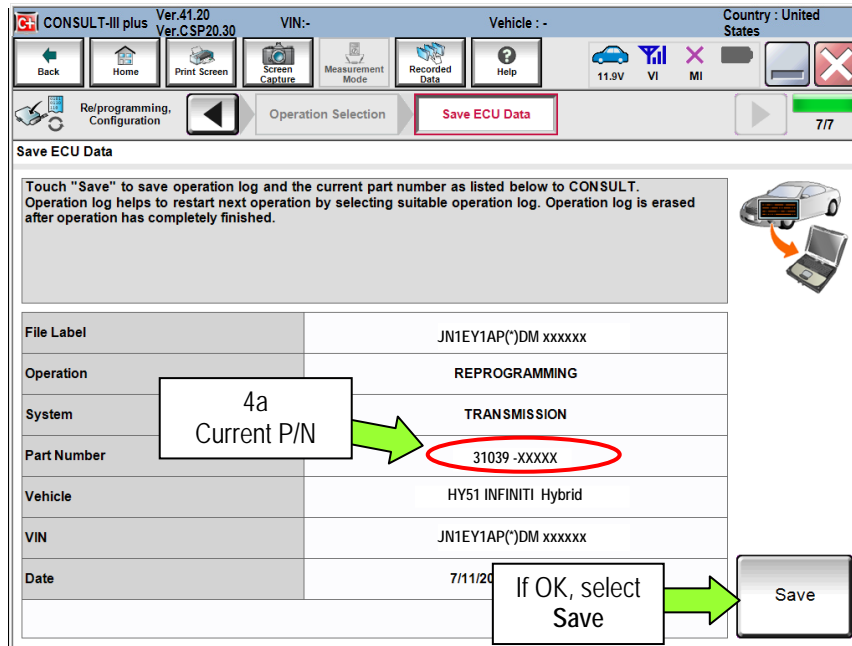

Figure 25
4. When you get to the screen shown in Figure 25, confirm if this TRANSMISSION (TCM) update has already been applied as follows.